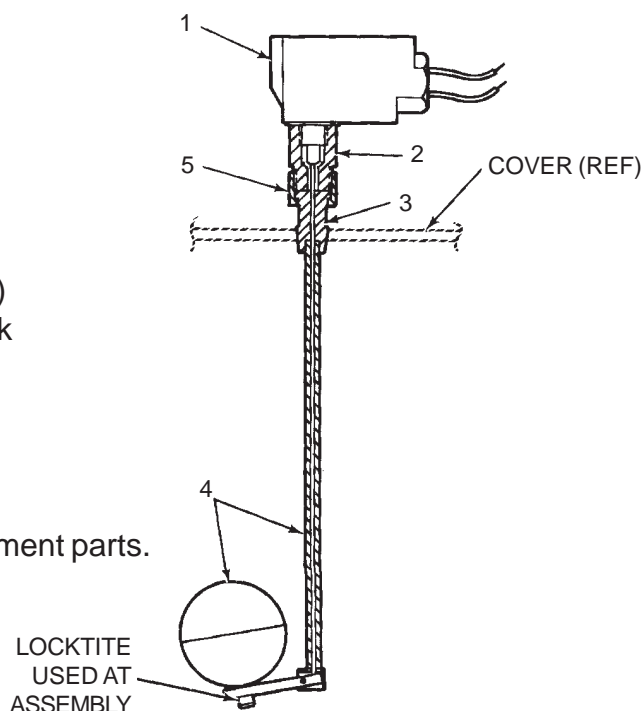

Figure 5-1. Oil Tank and Reservoir 15 Amp Low-Level Assembly
5.3.1 General. Maintenance tips, disassembly and assembly procedures for low-level options L1, L2 and L3 are discussed in Paragraphs 5.3.2, 5.3.3 and 5.3.4. A typical low-level assembly is shown in Figure 5-1 and should be referred to during this discussion.
- c. Unscrew union nut (5, Figure 5-1) from switch adapter (2).
- d. Unscrew switch adapter (2) from switch (1).
- e. Remove actuating rod, part of low-level lower assembly (4), from remaining assembly.
- f. Unscrew low-level lower assembly (4) from low-level adapter (3).
- g. Unscrew low-level adapter (3) from the reservoir cover. Remove low-level adapter (3) from union nut (5).
- b. Remove 1/4 inch pipe plug from reservoir cover. Insert low-level adapter (3, Figure 5-1) into union nut (5). Screw low-level adapter (3) into the reservoir cover and tighten securely.
- c. Screw low-level lower assembly (4) into low-level adapter (3) and tighten securely.
- d. Insert the actuating rod, part of low-level lower assembly (4), into this assembly.
- e. Screw switch adapter (2) into switch (1) and tighten securely.
- f. Screw union nut (5) onto switch adapter (2) and tighten securely.
5.3.5 Oil Tank and Reservoir 15 Amp Low-Level Assemblies Parts List. Table 5-2 identifies the parts indexed in Figure 5-1.